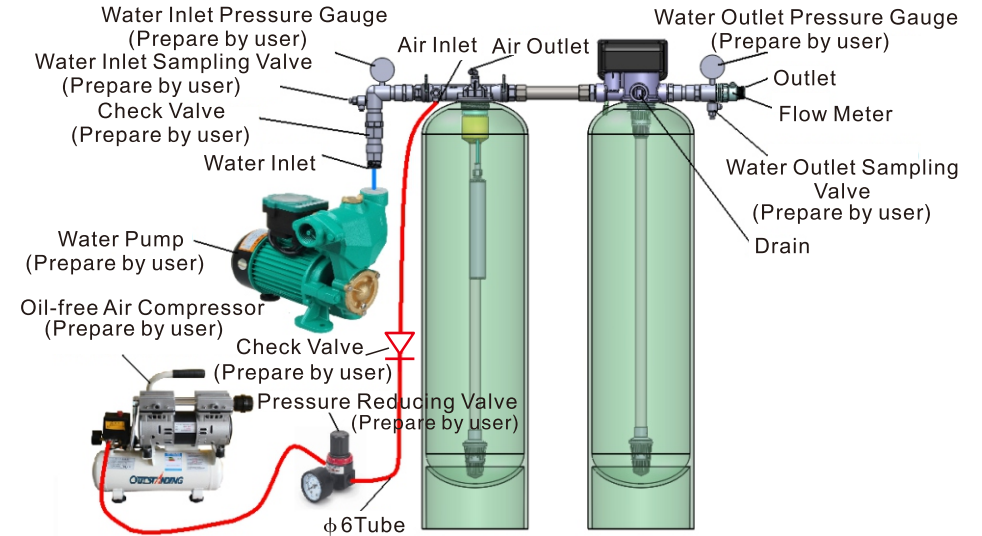

Figure 1
As Figure 1 shows (back view of system), connect aeration tank, filter tank as well as other accessories (For reference only):
- B. Adjust the compressed air pressure reducing valve, it would be better to let inlet air pressure (check the pressure gauge as shown in Figure 1) be 0.05Mpa lager than inlet water pressure (check the water pressure gauge as shown in Figure 1).